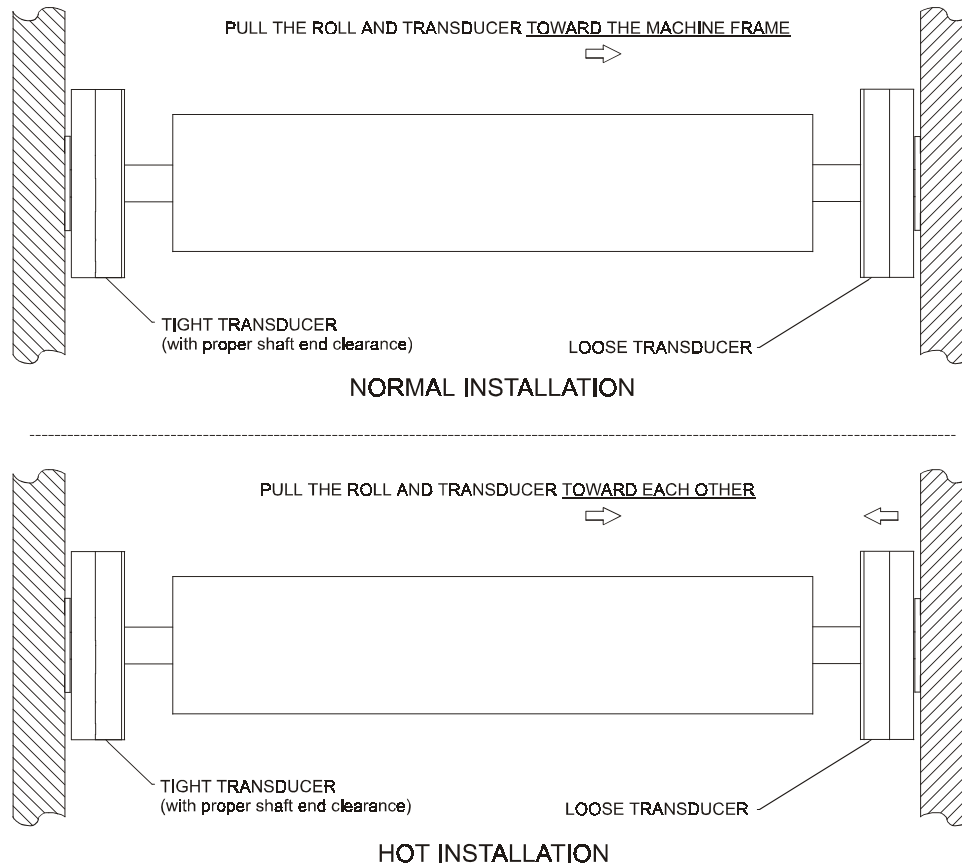

Figure 11 - ADJUSTING FOR AXIAL PLAY
1. **Procedure** Refer to Figure 11. Remember, the left end transducer is tightly clamped to the shaft and the right end transducer clamp is loose.
VERIFY THE ROTATIONAL FREE PLAY (D version, only) at this time, see Figure 11. Not much is needed, only enough to be able to feel. If none is detected, loosen one shaft clamp and turn both the idler shaft and the loose coupling in the SAME direction. Then re-tighten the clamp.